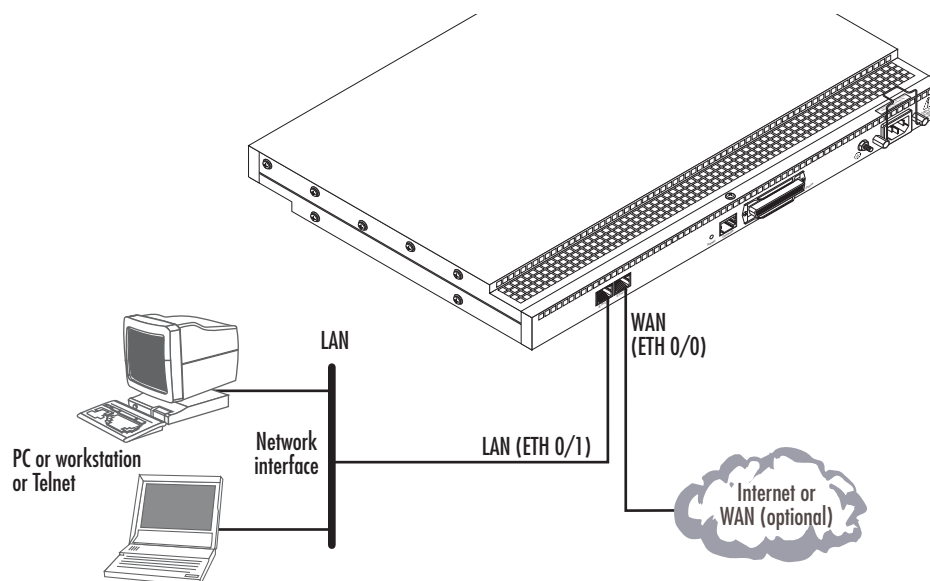

Figure 15. Connecting the SmartNode to the network
2. **Connecting the SmartNode to the network** (see figure 15). Refer to section “1. Configure IP address” on page 36 for details).